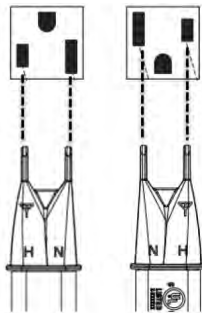

Fig. 1
- Insert the tips as shown in Fig. 1, such that the tips are completely engaged in the receptacle, to detect the presence of an AC voltage on the Hot side of the outlet.